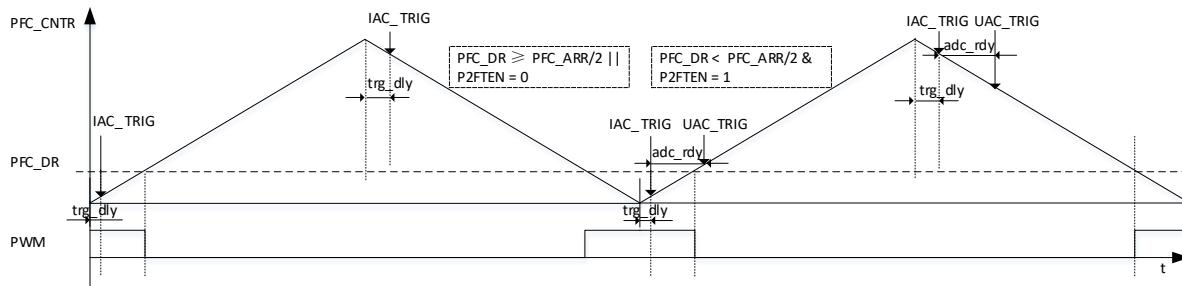

Figure 12-6 Diagram of PWM Output and IAC/UAC Sampling
- The sampling point is determined according to PFC\_CR2[P2FTEN] and PFC\_DR (as shown in Figure 12-6). If  $\text{PFC\_CR2[P2FTEN]} = 0$  and  $\text{PFC\_DR} < \text{PFC\_ARR}/2$ , sampling is triggered when  $\text{PFC\_CNTR}$  reaches the underflow point. If  $\text{PFC\_CR2[P2FTEN]} = 1$  or  $\text{PFC\_DR} \geq \text{PFC\_ARR}/2$ , sampling is triggered when  $\text{PFC\_CNTR}$  reaches the overflow point. The time delay for sampling is configurable by PFC\_TRGDLY. The overflow point can be set at  $\text{PFC\_TRGDLY} \times 8$ , and the underflow point at  $(\text{PFC\_ARR} - \text{PFC\_TRGDLY}) \times 8$ .